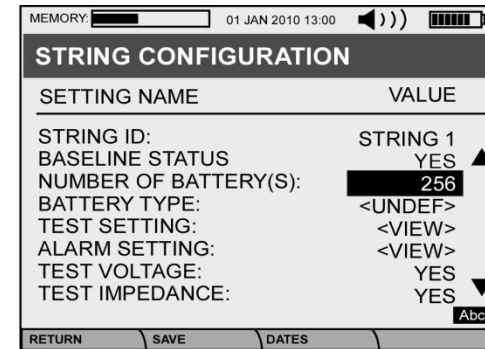

Figure 2.10. String configuration screen.
When the user is entering information in the **STRING CONFIGURATION** screen (Figure 2.10), there are three (3) Template entries that may be selected; otherwise data may be entered manually into these section. The three templates (**BATTERY TYPE**, **TEST SETTING** and **ALARM SETTING**) are detailed in the sections below.